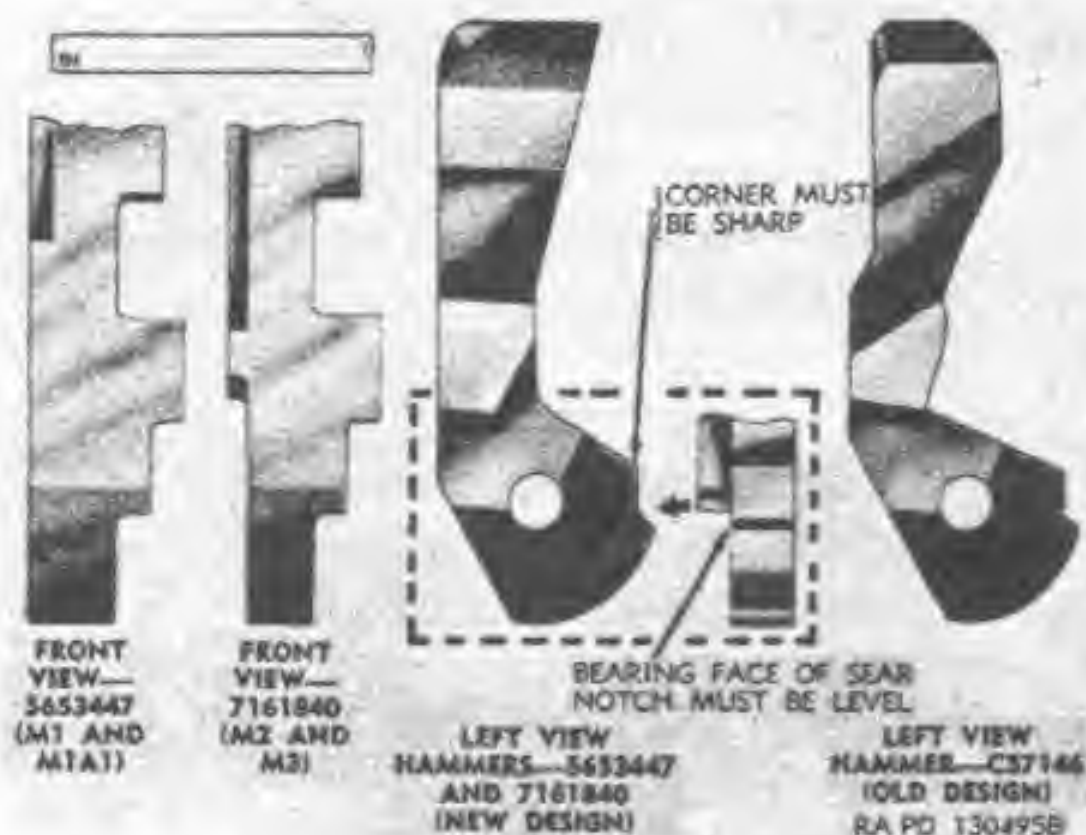

Figure 49. Old and new design hammers for carbines M1, M1A1, M2 and M3.
- (2) *Field or depot maintenance.* Where comparators are not available check hammer for worn pinhole, burred or dented face or bolt cam, worn or burred plunger retaining slot, burrs, and rust. Check to see that cocking cam is in good condition and that the corner of the sear notch is not rounded or broken. This corner must be reasonably sharp. Any evidence that the sear notch has been stoned is cause for rejection. Bearing face of sear notch should be level as determined by visual check (fig. 49). Inspect hammer pin for wear and burrs, hammer for looseness on pin, and pin for looseness in trigger housing. Movement of hammer or pin should be free, but without shake. Inspect trigger housing, at point of contact with stop lug or left face of hammer, for wear and burrs.
*Note.* Replace early design hammer C57146 with hammer 5653447 of recent design (fig. 49).